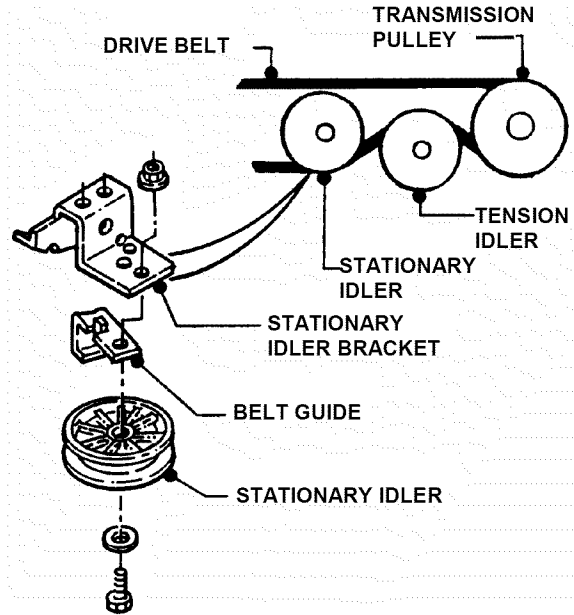

FIGURE 4.35
**NOTE:** When installing a new belt, make certain the stationary idler is mounted in the hole closest to the L.H. side of the tractor. See Figure 4.35.